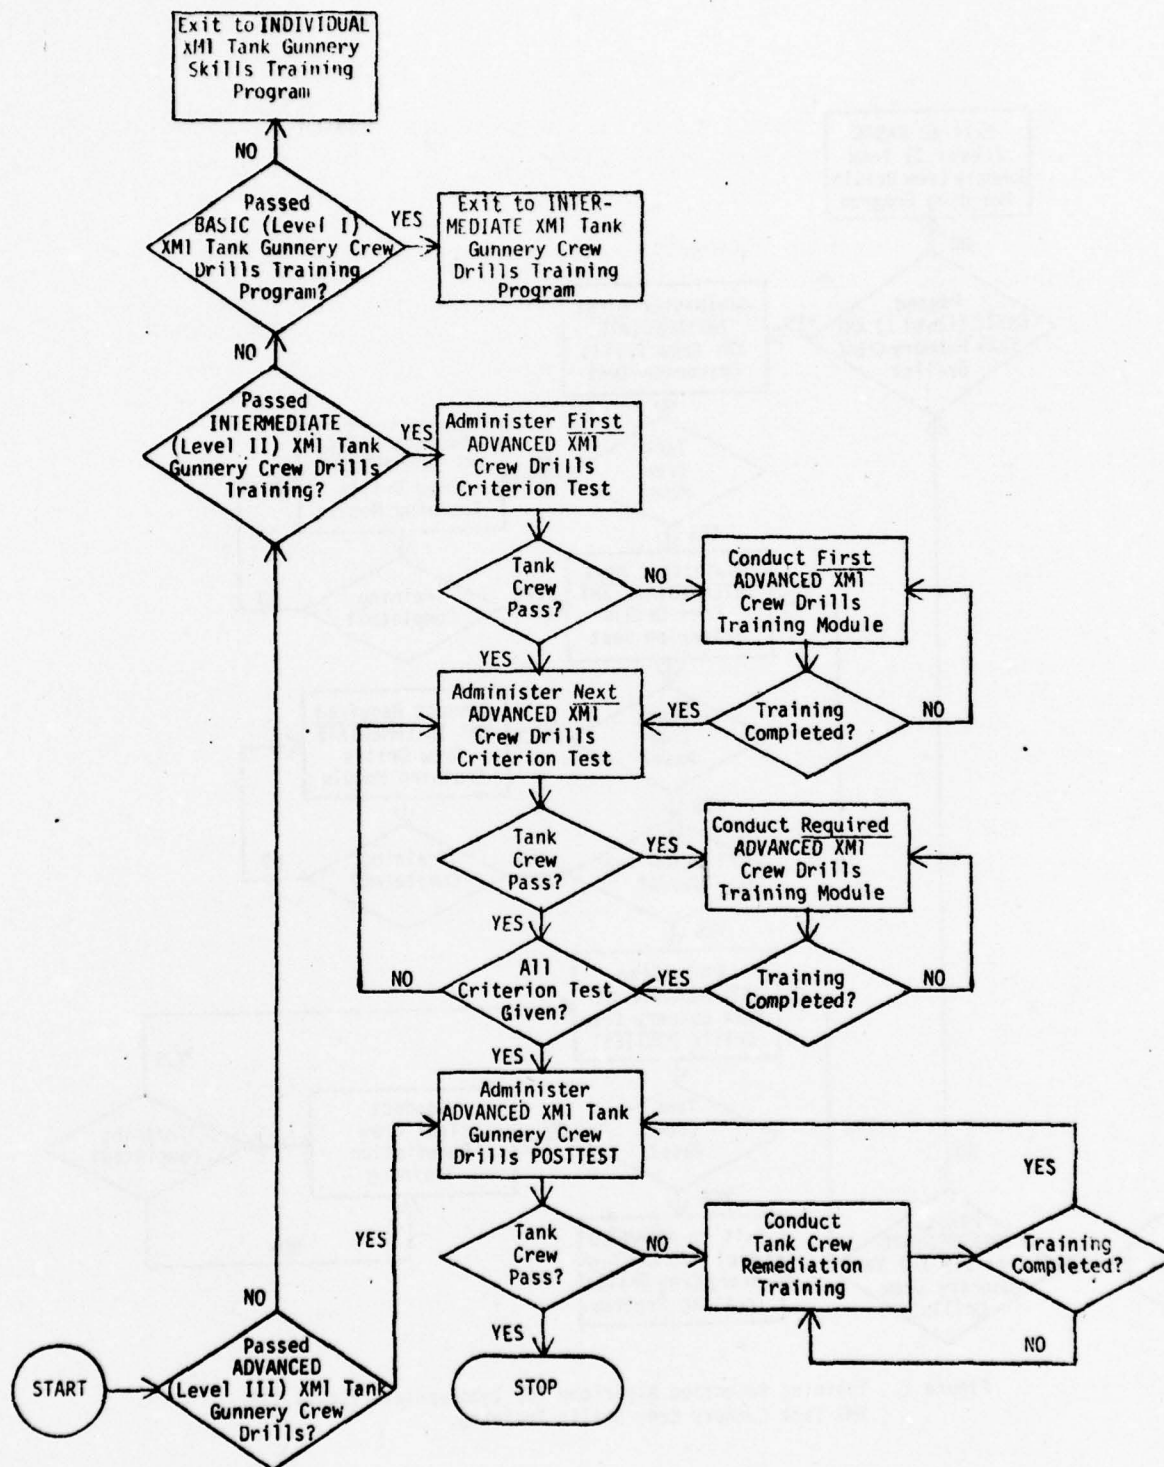

Figure 3. Training Selection Algorithm for Advanced (Level III) XM1 Tank Gunnery Crew Drills Training.
- c. ADVANCED. (Refer to Figure 3.)